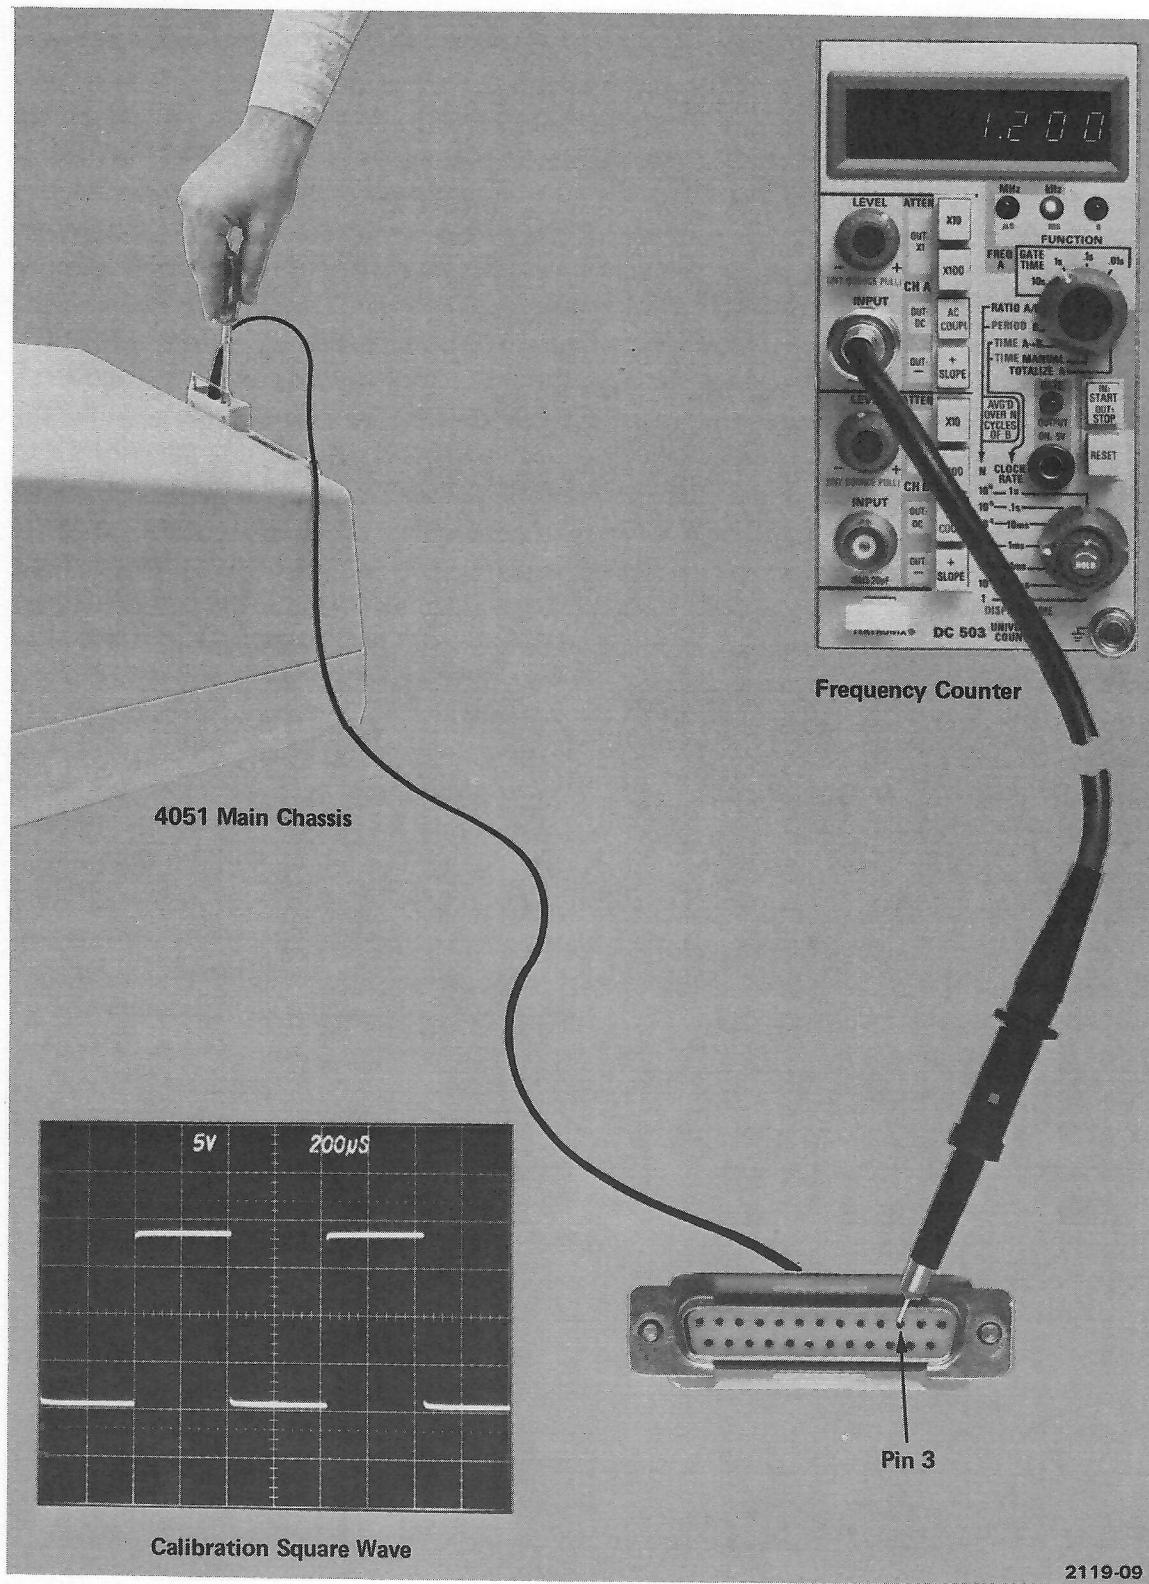

Figure 4-2. Baud Rate Calibration.
2. Insert the 4051 RS-232 printer interface into the left receptacle in the 4051 backpack. See Figure 4-2. Rock the plastic housing gently from side to side while pressing down, until the interface connector firmly seats into the backpack connector.